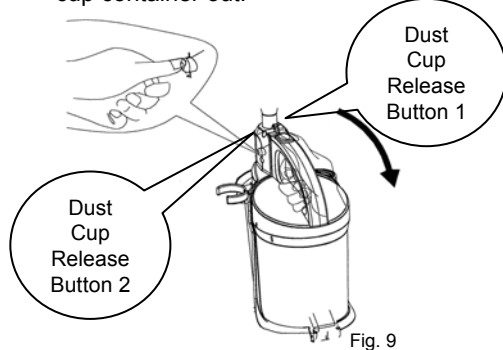

Fig. 9
1. To remove the dust cup container, first press on the dust cup release button (1) that is located on the dust cup handle and at the same time press on the dust cup release button (2) that is on the side of the upper housing (Fig. 9). Then pull the dust cup container out.